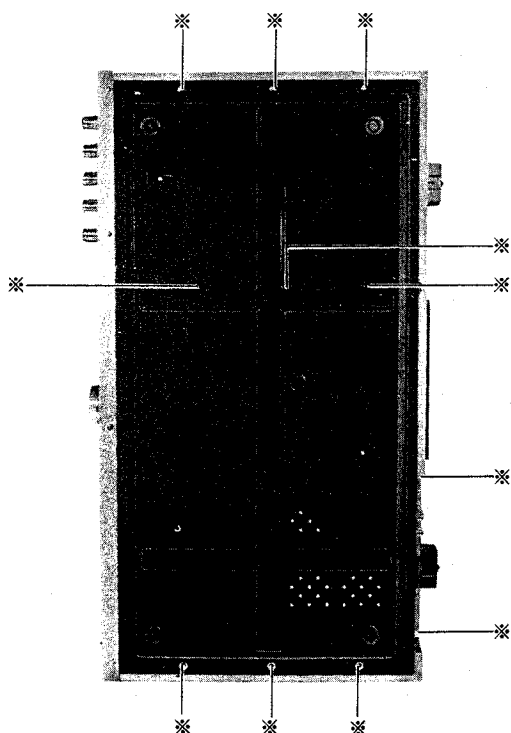
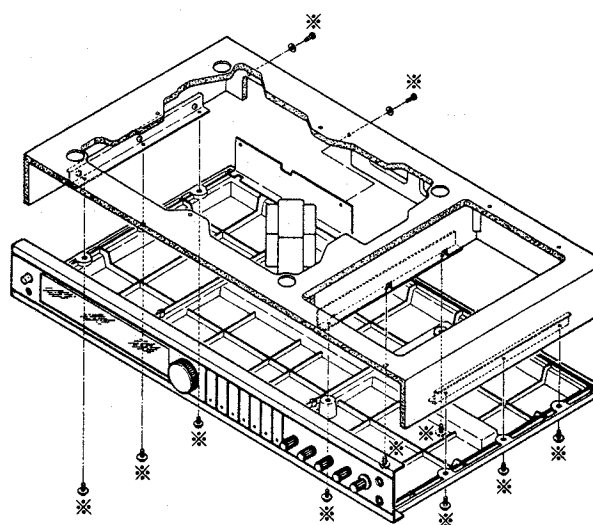

Figure 7
Figure 8
- Remove the eleven screws marked (※) as shown in figure 7 and figure 8.
- The cabinet can now be removed as shown in figure 8.